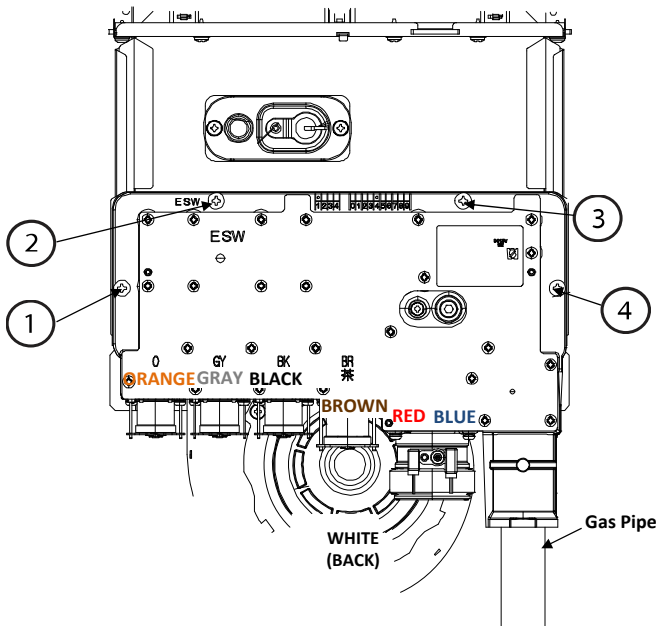
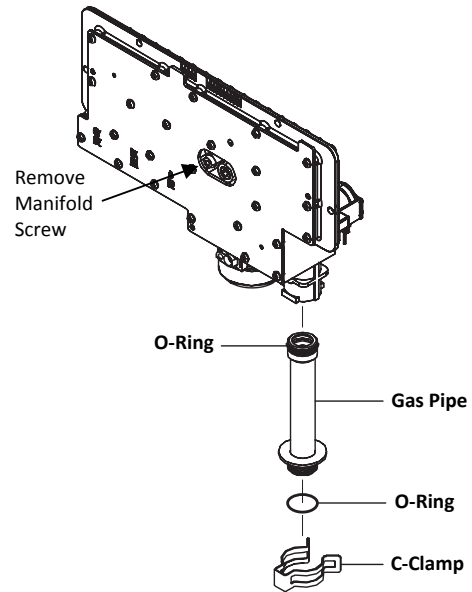

FIGURE 1
FIGURE 2
- 6) Locate the colored wire connectors from the electrical solenoids on the manifold from the locations indicated in Figure 1 on the following page. Follow the wires to a white clip and disconnect it. Disconnect the gas pipe from the gas supply inlet by removing the C-Clamp at the bottom of the gas pipe (Figure 2). For easier access remove the mounting plate with the current leakage safety device in front of the gas pipe.
- 7) Then locate and remove the 4 screws with a Philips screwdriver (Figure 1). Do NOT use a power drill. Once screws are removed, pull the gas pipe from the gas fitting. When the pipe and manifold have been detached, remove the gas pipe from the manifold inlet. **Remember to remove the manifold screw. This will be used on the new manifold plate.** Discard the original manifold plate.
10) Locate the black O-rings on the gas pipe as indicated in Figure 2 & 5. If torn or damaged, remove and replace O-rings with the new O-ring supplied in the conversion kit. Discard the old O-rings.
- 15) Secure the new manifold plate to the unit using the screws removed in Step 7. The screws need only to be hand tightened and should not be tightened using a drill. First, insert screws 1-4 from Figure 1, but do not fully tighten these screws. Once all screws are inserted, proceed to completely tighten screws 1-4.
- 16) Attach C-Clamp at the bottom of the gas pipe (Figure 2). **Failure to do so will cause gas leaks, possibly resulting in severe personal injury or death.**
- 17) Reconnect the white clip that contains the wires to the electrical solenoids on the manifold from the locations indicated in Figure 1.